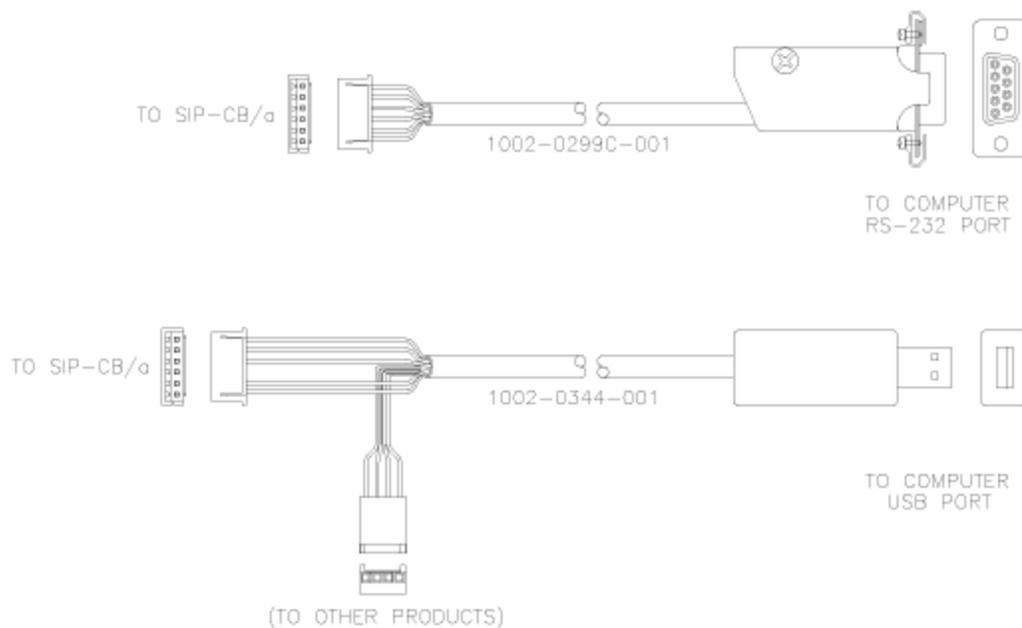

Figure 2-1
- Programming cables as illustrated in Figure 2-1. Part number 1002-0299C-001 for computers with serial (RS-232) com ports or 1002-0344-001 for those with USB ports. Only one cable is required to program all units.